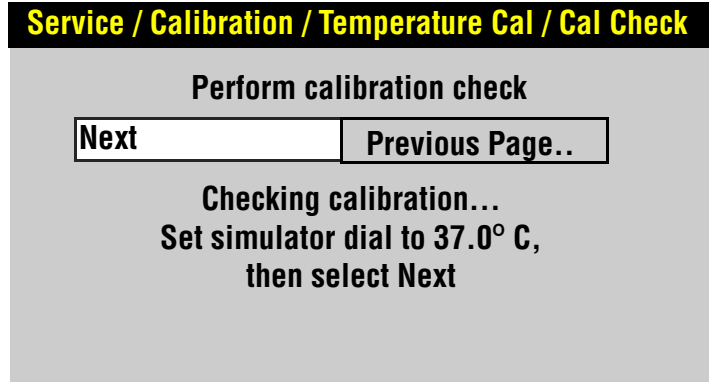

Figure 5.16—Calibration checking
7. Set the temperature simulator to 37.0 C and then select the Next button. The screen shown in Figure 5.16 appears